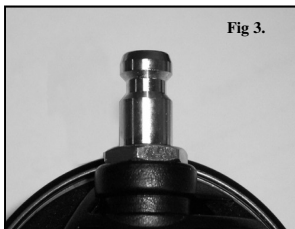
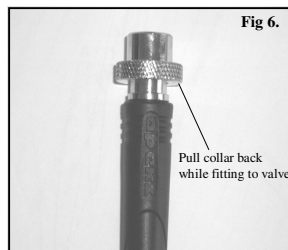

Fig 3.
Fig 4.
**Fig 3. shows the Apeks fitting and fig 4. shows the Seatec fitting. The Seatec fitting is the same fitting found on buoyancy device direct feeds and tends to be more widely used.**